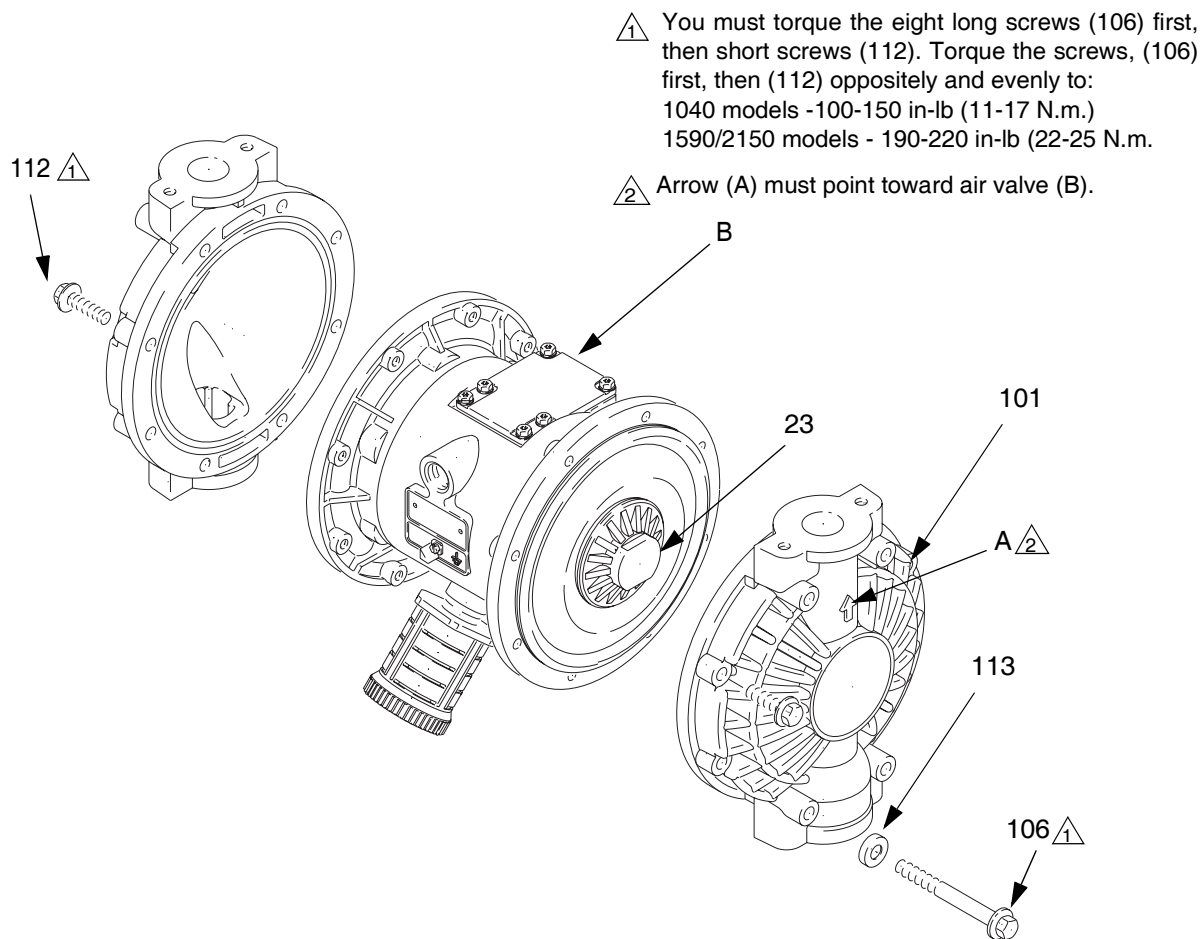

FIG. 5
1. Remove the screws (106) and (112) holding the fluid covers (101) to the air covers (23). Pull the fluid covers (101) off the pump. See FIG. 5.